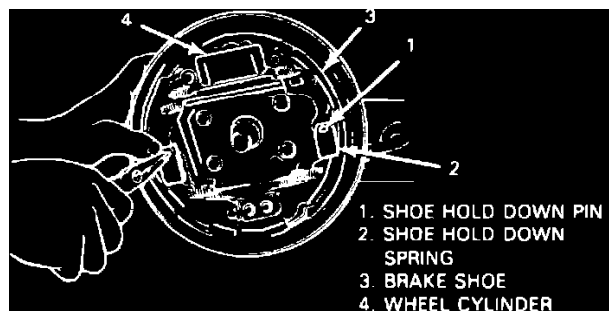

**Fig. 8 Installing rack bushing**
2. Using tool J-34868 or equivalent, install bushing into rack housing, ensuring bushing to housing clearance is as shown, **Fig. 8**.